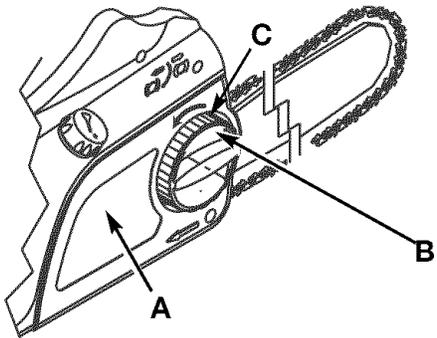

Fig. 17
2. Loosen knob (B) slightly by turning knob counter-clockwise and then turn the chain tension ring (C) counter-clockwise to relieve chain tension (Fig. 17).
3. To remove the sprocket cover (A), turn knob (B) completely counter-clockwise. (Fig. 17)